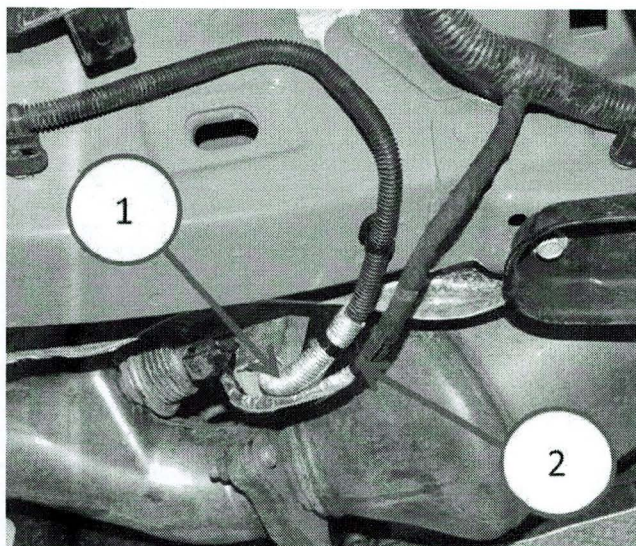

Fig. 7 PROPER INSTALLATION
13. Ensure installation looks as shown in (Fig. 7).